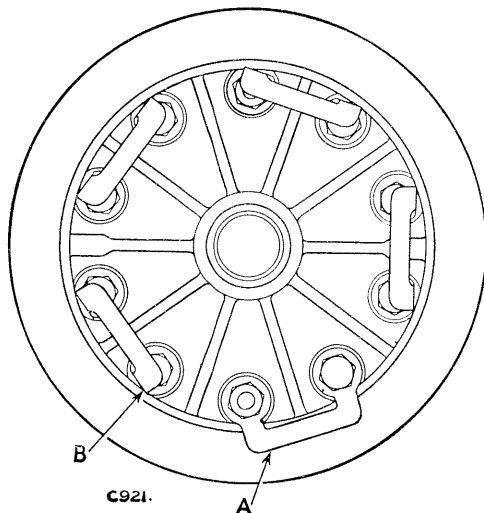

Fig. F-10—Fitting crownwheel double lockers
- The double lockers must be fitted as shown in Fig. F-10.